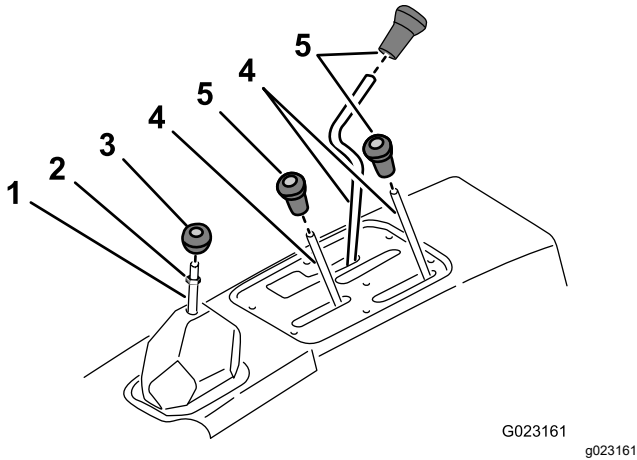

Figure 2
1. Unscrew and remove all the knobs from the console levers and from the gear-shift lever (Figure 2).
2. Remove the jam nut from the gear-shift lever (Figure 2).